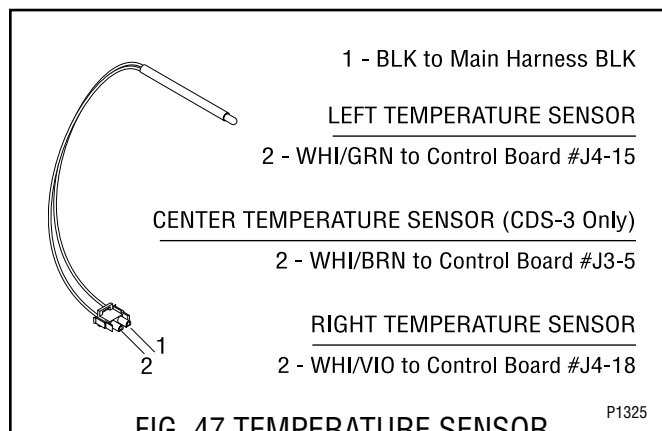

FIG. 47 TEMPERATURE SENSOR
5. Refer to Fig. 47 and reconnect the wires.